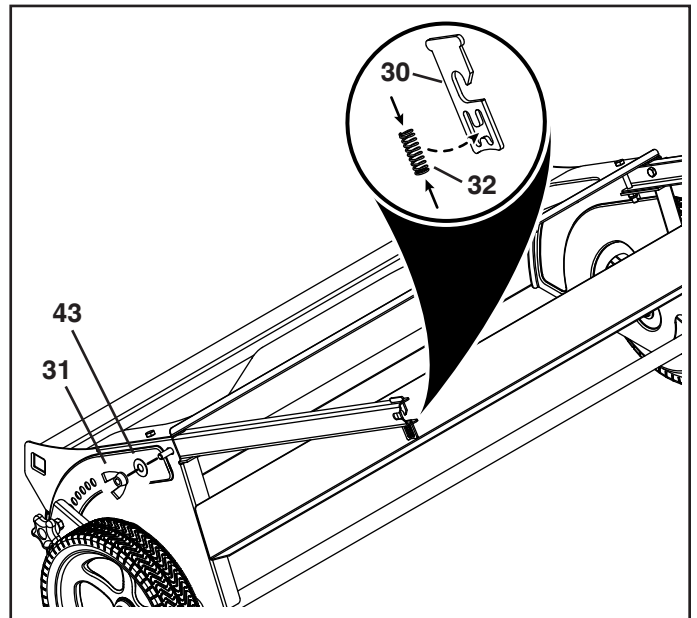

FIGURE 3
STEP 3: (SEE FIGURE 3)
- Secure each bag arm channel to the side of the sweeper housing with a wing nut (31) and a washer (43) installed on the bolt assembled in step 1.
- Insert a pivot rod retainer (30) down into the end of each bag arm channel.
- Install a compression spring (32) into the bottom of each of the pivot rod retainers to secure them to the bag arm channels.